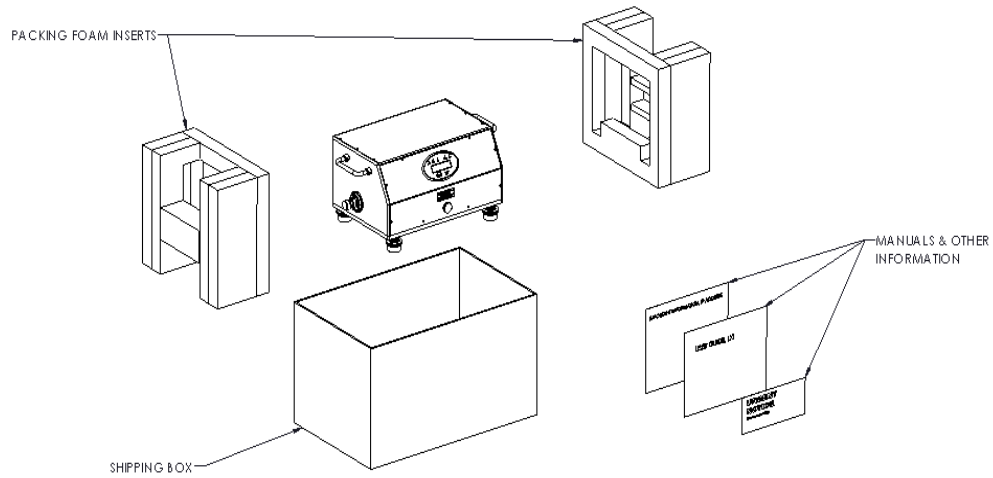

Figure A 1a. Packing Kit (cardboard box)
- Refer to Figures A 1a and A 1b for proper tuner packaging. Table 3 shows the type of shipping crate needed for the different multi-carriage tuners.